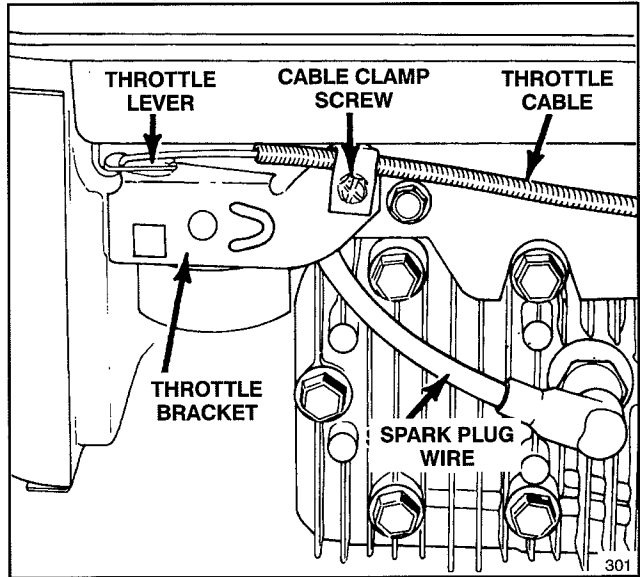
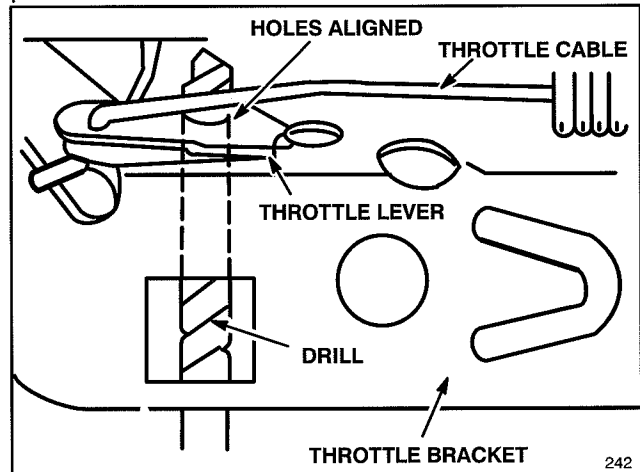

Figure 15
Figure 16
1. Stop engine and pull wire off spark plug (Fig. 15).
3. Loosen cable clamp screw until throttle cable slides (Fig. 15). Align holes in throttle lever and throttle bracket using a 1/8" diameter drill (Fig. 16). Tighten cable clamp screw to lock adjustment in place.
1. Stop the engine. Pull the wire off the spark plug (Fig. 15).